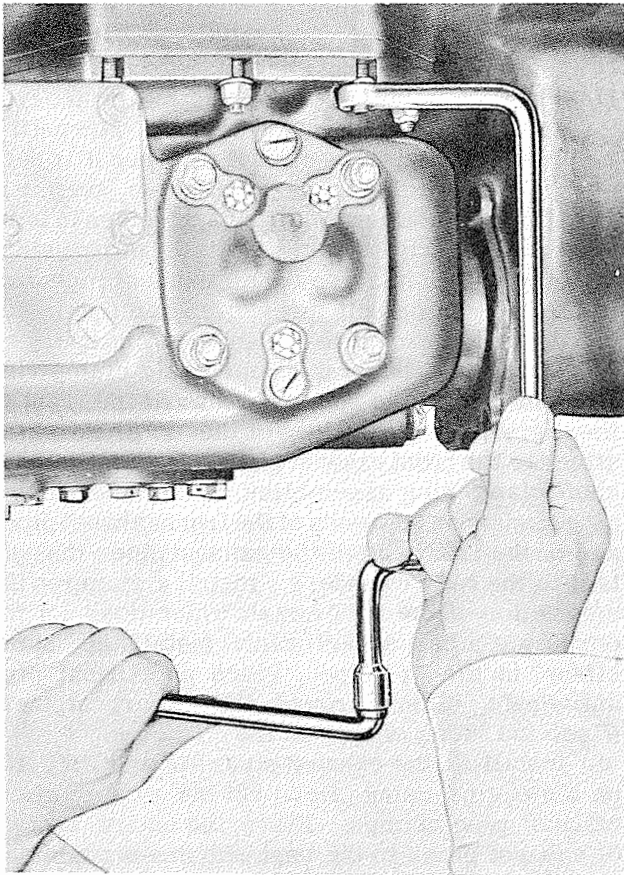

Figure 7-39. Removing Rear Oil Pump and Sump Housing Front Attaching Nuts
b. Remove the pump and sump front attaching nuts using wrench 805567. Remove the rear attaching nuts using wrench 805566. See figures 7-39 and 7-40. Remove the pump and sump housing and gasket.